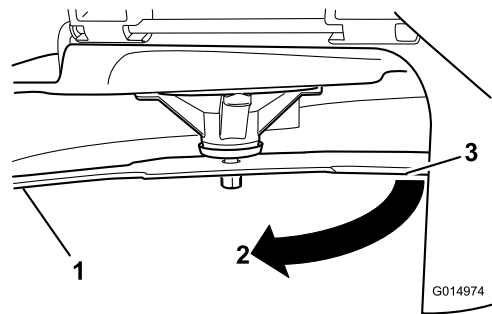

Figure 88
3. Measured distance between blade and the surface (A)
4. Rotate the same blade 180 degrees so that the opposing cutting edge is now in the same position (Figure 88).